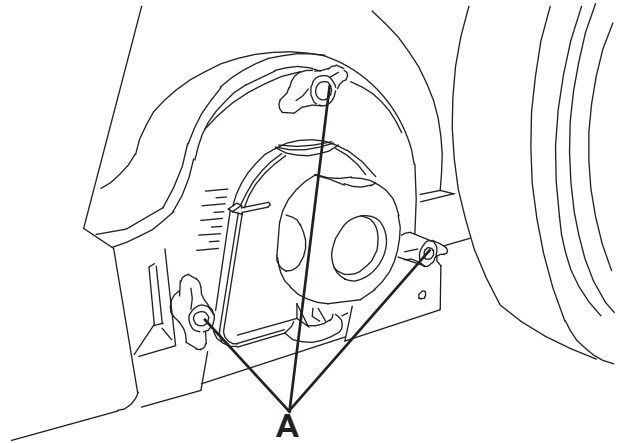

Figure 5
2. Turn the main switch (1) to "0".
3. Remove the hopper (9).
4. Loosen the handwheels (A, Fig. 5) completely on the left side of the machine.